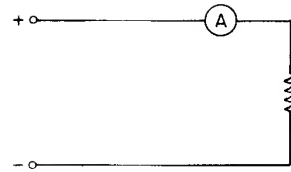

Fig. 2.88 An ammeter connected into the circuit to find the current flowing
1. **Measurement of current.** Current is measured by connecting an ammeter *into* the circuit as shown in Fig. 2.88.